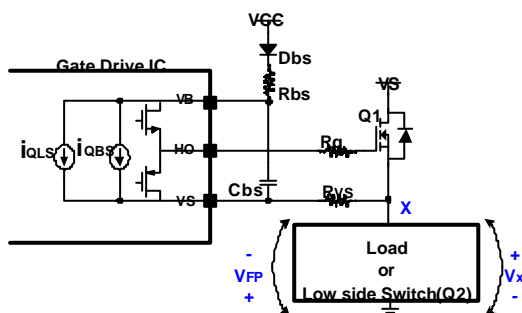
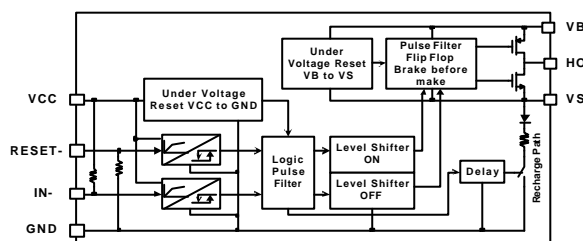
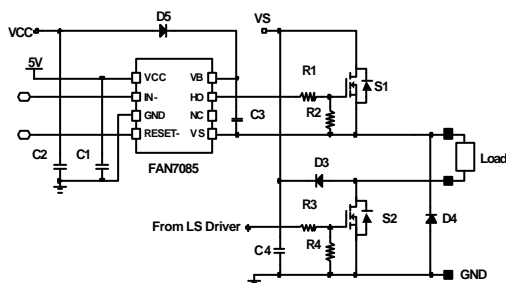

figure 1. Bootstrap Circuit
Figure 2. Internal block diagram of FAN7085
Figure 3. Application example of FAN7085
Using a N channel MOSFET as a high side switch requires a voltage supply referenced at the source of the MOSFET. One of the most widely used method in supplying power to the high-side circuitry is the use of the bootstrap floating supply due to its inherent simplicity and inexpensive features. This kind of floating supply is suitable for providing a gate drive circuitry to directly drive high side switches that operate up to rail voltages. The basic circuit of the bootstrap supply, shown in Figure 1, is formed by a diode (Db) and a capacitor (Cbs). But, this type of floating supply has limitations on refreshment of Cbs when duty cycle is very high or turn-on time is very long. In the case where the gate voltage is not enough to fully turn-on the MOSFET (Q1), the output of gate drive IC (HO) should be turned-off to prevent the Q1 from operating in high dissipation mode. The optional gate resistor (Rg) is used for the purpose of controlling the turn-on/turn-off time of the Q1, and the bootstrap resistor (Rbs) is used to limit the current and prevent the bootstrap capacitor (Cbs) from overcharging.
start-up phase can be defined by the time constants  $R_{bs}$ ,  $R_{vs}$ , and  $C_{bs}$ . When the load is connected and forms the charge path in the bootstrap circuit, the initial charging time is defined by  $C_{bs}$  and the relationship between  $R_{bs}$ ,  $R_{vs}$ , and the load impedance  $R_L$ . Most designs, the value of  $C_{bs}$  is picked with some margins, which leads to longer start-up time. If node X is left floating for a long time,  $V_{bs}$  will decrease due to leakage current, and consequently the gate drive IC will go into UVLO condition. Controlling the low side switch properly, the bootstrap capacitor can be recharged and maintain the voltage level needed by the gate drive IC. The gate drive IC FAN7085 (block diagram shown in Fig.2) has a built-in recharge switch that will charge the bootstrap capacitor regardless of the application. If Q1 is turned off and FAN7085 is used as a gate drive IC in the bootstrap circuit shown in Figure 1, the internal recharge switch of the FAN7085 will activate to provide the path to charge the bootstrap capacitor ( $C_{bs}$ ) fully. Let's look at a specific application of the FAN7085, which is shown in Figure 3. In the event that both of the switch (S1 and S2) are turned off, the internal recharge switch of the FAN7085 will provide the path to charge the bootstrap capacitor. If the current level passing through the recharge switch is higher than the leakage current, bootstrap capacitor will charge through the recharge path. The voltage level on the VS pin of the FAN7085 at a given current level when the recharge switch is turned on is defined on the datasheet.